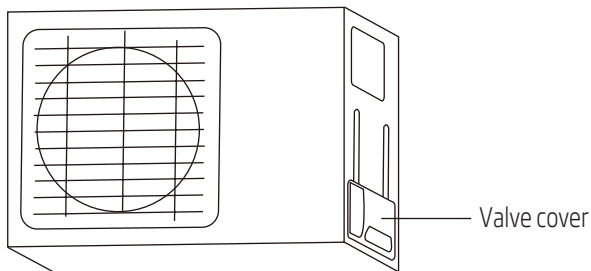

Fig. 7.9
1. Unscrew the cover from the packed valve on the side of the outdoor unit. (See Fig. 7.9)